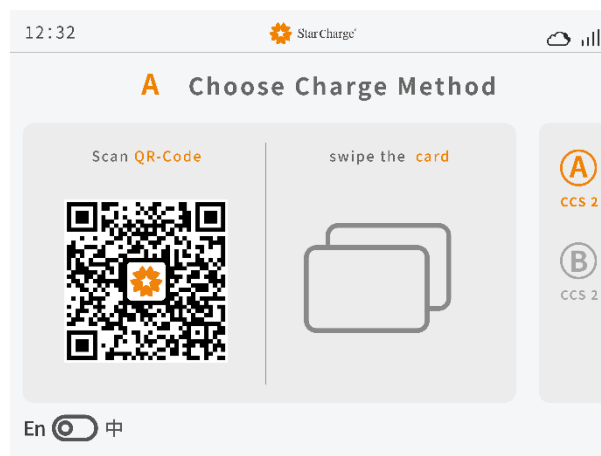

Figure 3-10 Scan QR code charging interface
Step 2: Scan QR code to start charging: open "Star Charge" or other mobile phone clients to scan the QR code on the EVSE interface for charging, as shown in Figure 3-10. Click A and B buttons on the far right of the screen to switch to the interface of other charging connector.